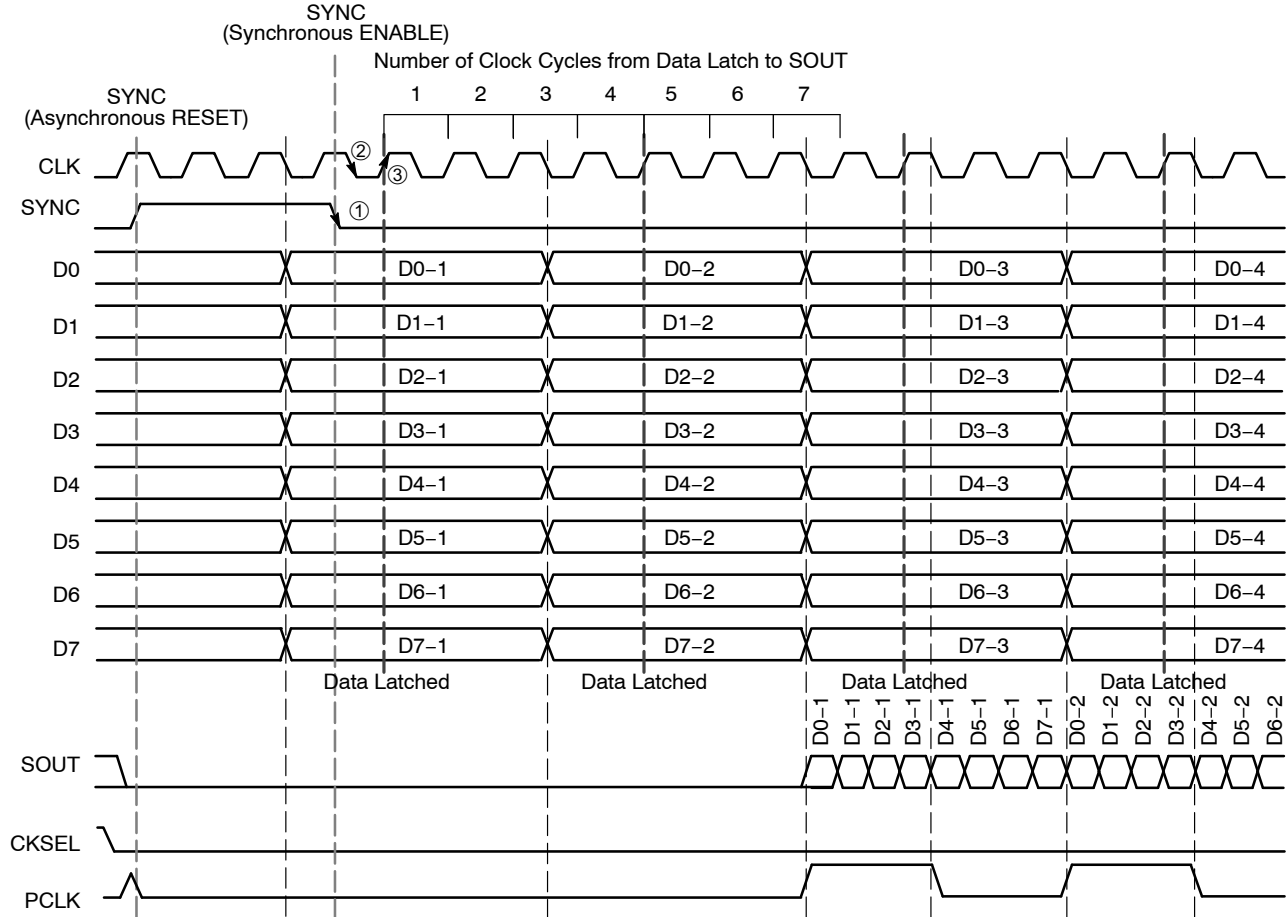

Figure 9. Timing Diagram 1:8 Parallel to Serial Conversion with CKSEL LOW and SYNC
The device also features a differential SYNC input (Pins 29 and 30), which asynchronously reset all internal flip-flops and clock circuitry on the rising edge of SYNC. The release of SYNC is a synchronous process, which ensures that no runt serial data bits are generated. The falling edge of the SYNC followed by a falling edge of CLK initiates the start of the conversion process on the next rising edge of CLK (Figures 9 and 10). As shown in the figures below, the device will start to latch the parallel input data after the a falling edge of SYNC ①, followed by the falling edge CLK ②, on the next rising edge of CLK ③ for CKSEL LOW